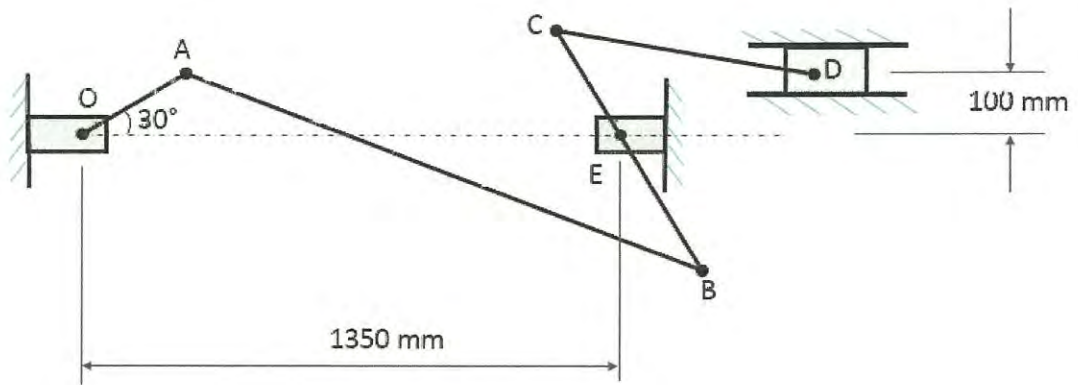

Figure Q1
- Q1** A mechanism, as shown in **Figure Q1** has the following dimensions: $OA = 200$ mm; $AB = 1500$ mm; $BC = 600$ mm; $CD = 500$ mm and $BE = 400$ mm. Given crank OA rotates uniformly at 120 RPM clockwise.